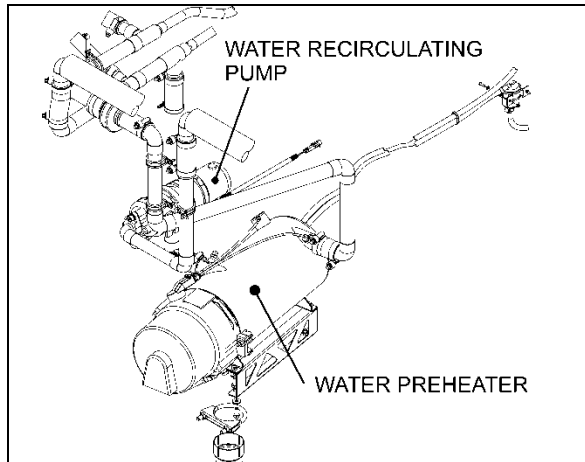

FIGURE 76: PUMP LOCATION – X3 SERIES
- X3 Series - coolant preheater compartment (Figure 76)